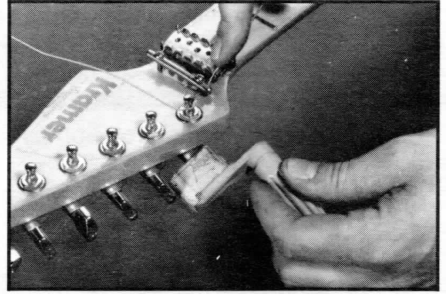

FIGURE SG 4
*Note: When putting on all new strings, passing strings over the nut is made easier by removing string locking elements as also seen in Fig. SG 4.